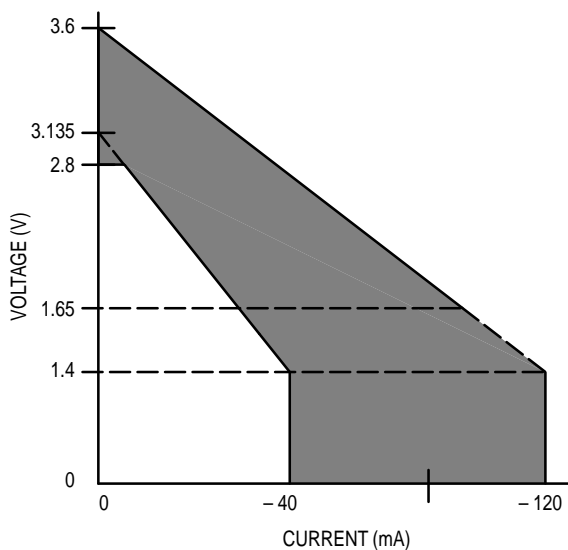

**Figure 2. AC Test Load**
Output Load ..... See Figure 2 Unless Otherwise Noted
- Tested per AC Test Load, Figure 2.